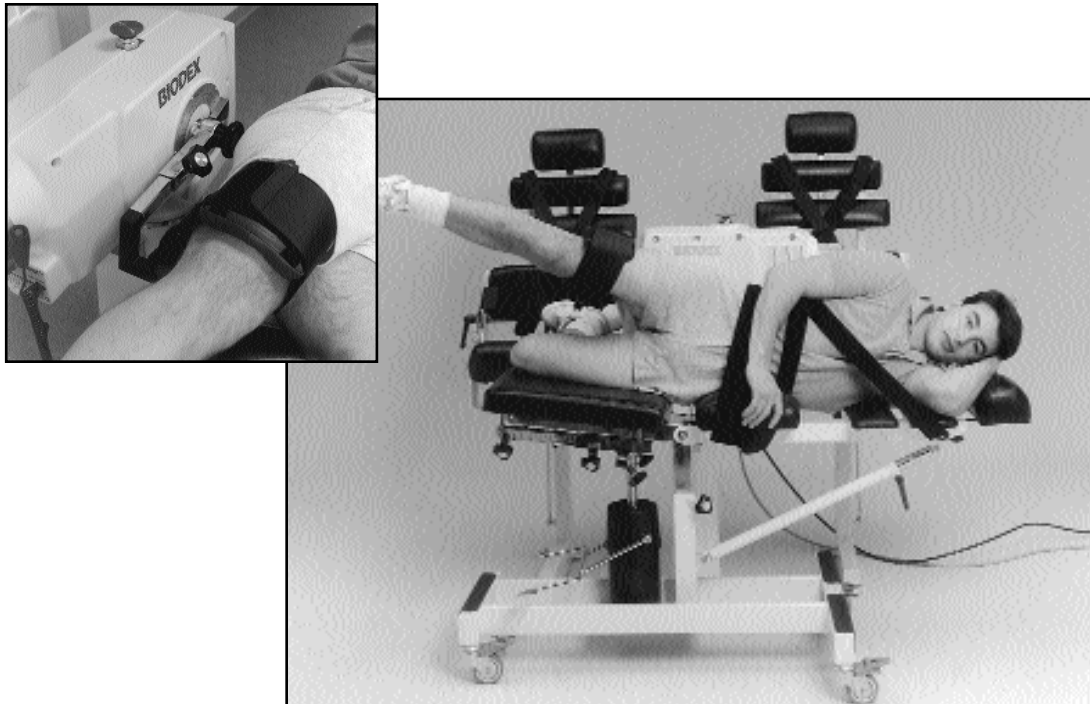

Figure 4.33
4. Align powerhead shaft with axis of rotation for the upper hip. Axis of rotation for this pattern is superior and medial to the greater trochanter. Adjust attachment length so that knee pad is positioned just proximal to the popliteal fossa (Figures 4.33 and 4.34).